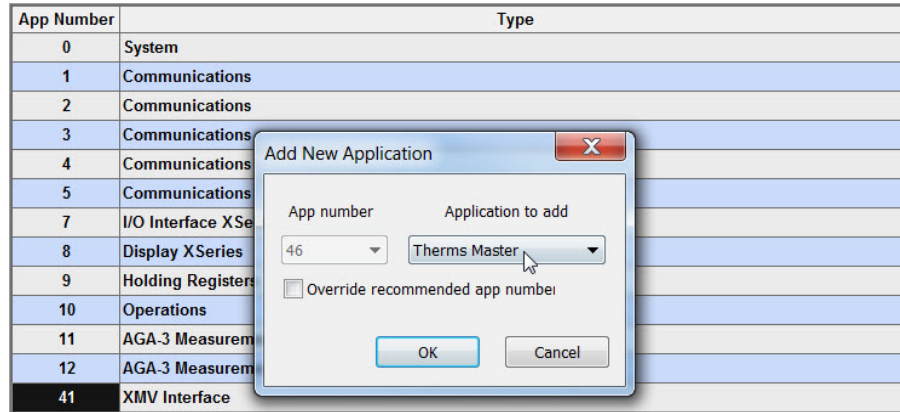

Figure 21. Add Therms Master application
- 4) Locate and select the Therms Master application from the drop down list. If this is the first time the Therms application has been added it will automatically be assigned to *application number 46* (see Figure 21).